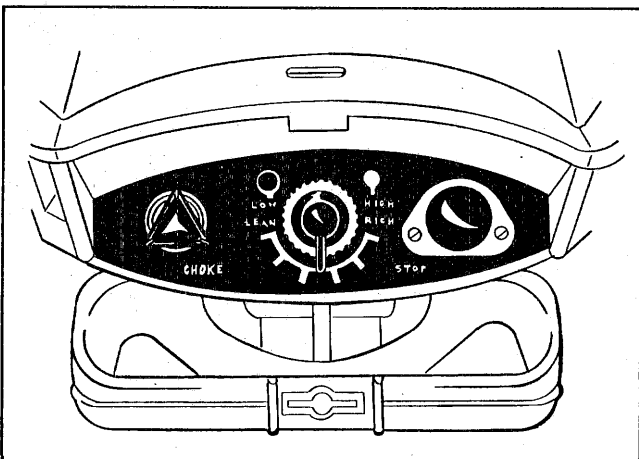

FIGURE 2
3. Remove carburetor controls and silencer assembly, if so equipped, as follows: Models having carburetor controls as shown in figure 2, proceed as follows: